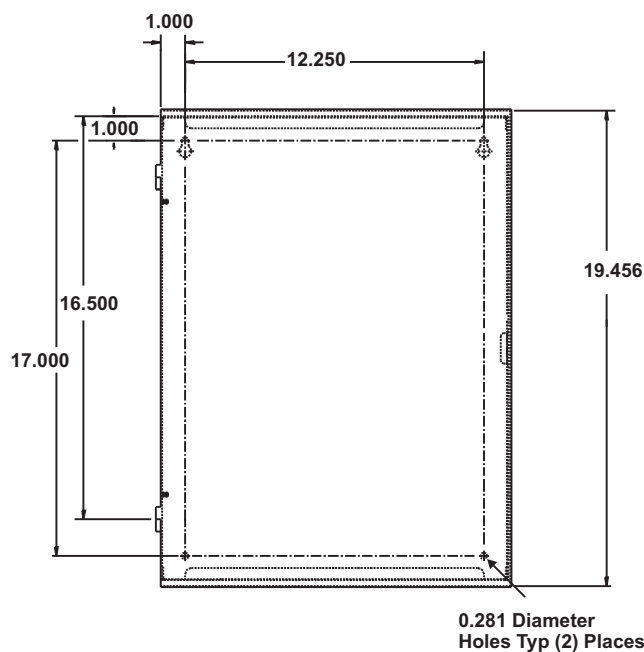

Figure 2-2. Back Box Mounting Dimensions
1. Mark and pre-drill holes for four mounting bolts using the dimensions shown in Figure 2-2. The installer must supply the mounting bolts (up to size 1/4-20). There are two holes and two keyhole slots in the enclosure's rear panel that serve as a template for surface mounting.